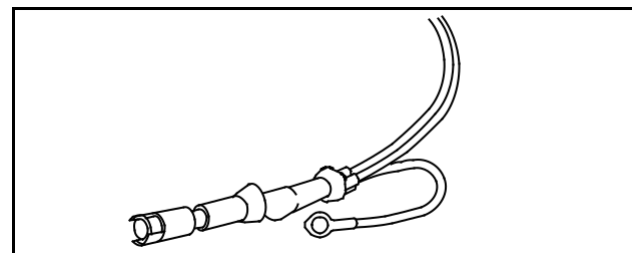

Fig. 745 – REPLACEMENT RECTIFIER
**NOTE:** Early style rectifier box is replaced by rectifier harness shown in Fig. 745.